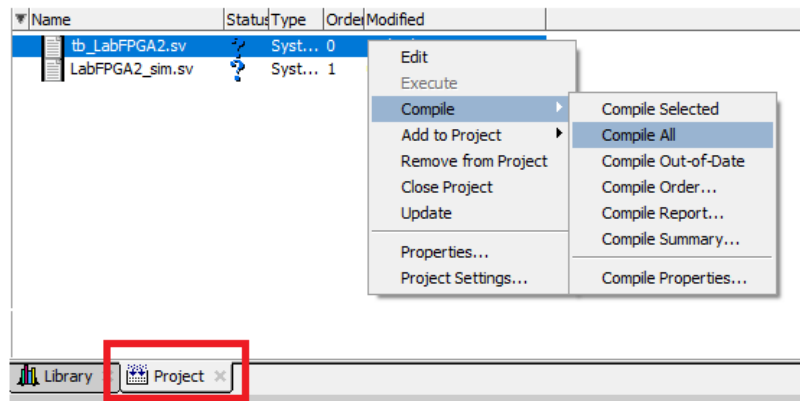

Figure 9. Compile Files
27. In the **Project** tab, you will see the added files. **Right-click** on either of the two files and select **Compile → Compile All**, as shown in Figure 9.